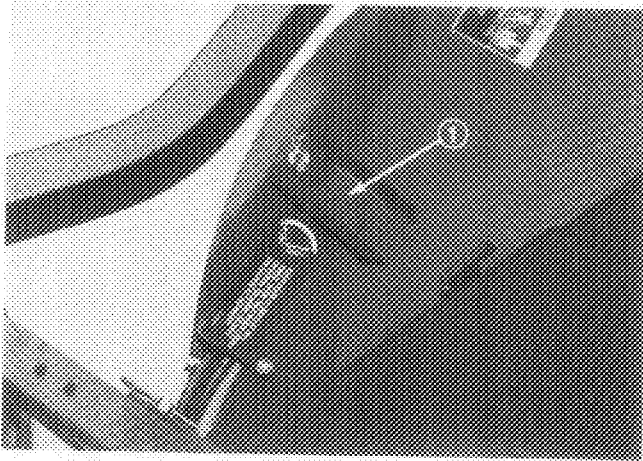

Figure 10
8. Loosen wing nut securing slot cover to top of deck (Fig. 10). Lift cover tongue out of slot, rotate cover 180°, pull cover outward to move deck door into the discharge position. Insert cover tongue into slot and tighten wing nut.